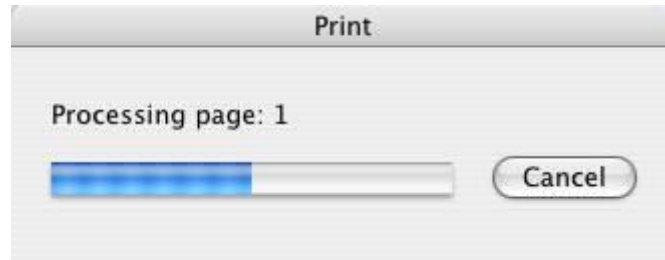

FIGURE 8
18) `colorFormat` – This is the color format the image will be saved in (if the selected Image Format allows such a color format). The possible choices are Default, Binary (black and white), 8 and 16 Bit Gray Scale, and 8, 16, 24, and 32 Bit color. If set to default, the image color format will be whatever is set in the native driver settings (Figure 8). This option will only have a true effect if the native driver prints in color. If the native driver is set to print in black and white, this option will convert the image to the appropriate color format but cannot produce real colors or gray scale. Printing in color with the native driver and then converting to black and white is much slower, which is why the native driver has the option for black and white (great for documents). If you want any color format besides black and white, make sure to choose 'Color' from the native driver settings (Figure 8).
You may see a print progress dialog (Figure 8) popup as the native driver generates the images.